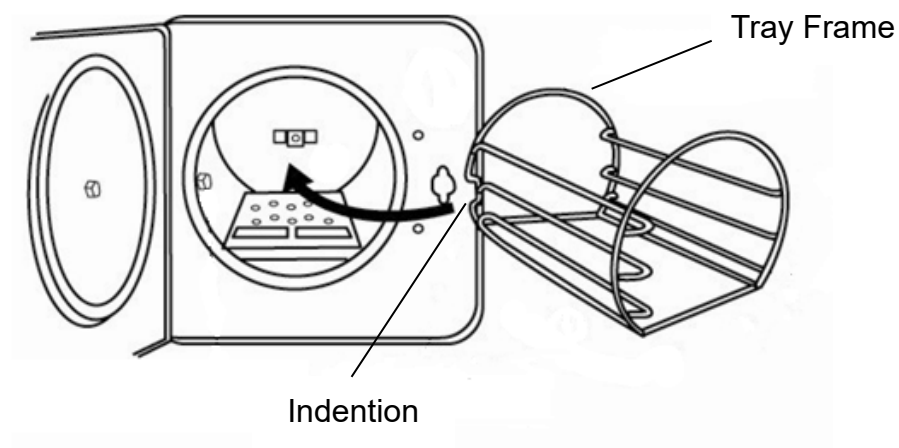

Figure 6 – Tray Frame
D. Install the tray frame as Figure 6. (optional accessory)
**⚠ Caution:** The frame should be installed as Figure 6 below. The indentation of the frame will pass the bushing in the chamber.